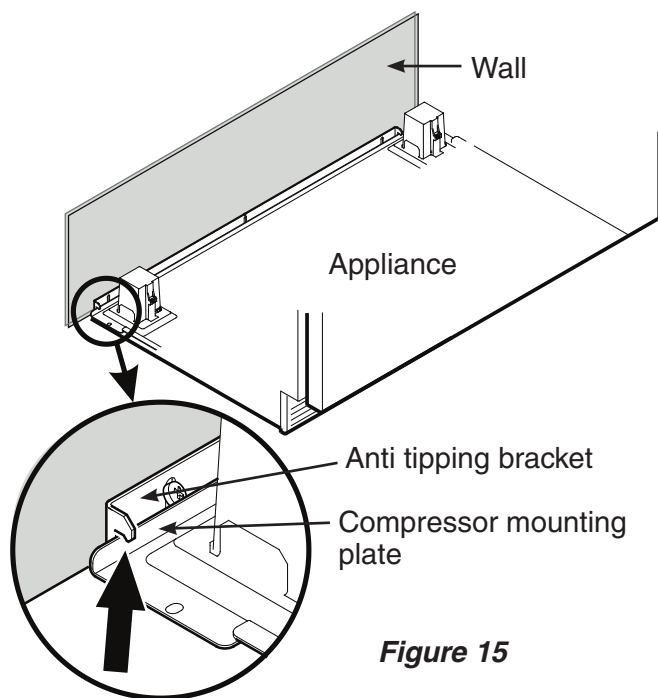

Figure 15
4. Push the appliance slowly to the back wall until the compressor mounting plate makes contact with the anti-tipping bracket (Figure 15).
To prevent the appliance from tipping forward the compressor mounting plate must have contact with the anti tipping bracket (Figure 15).